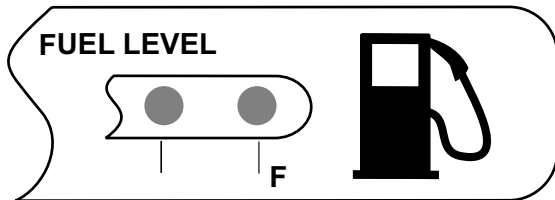

Figure 19. Fuel Status LED (Full)
3. Verify that the fuel tank is **full** by observing the fuel status LEDs (Figure 19) on the engine status panel.